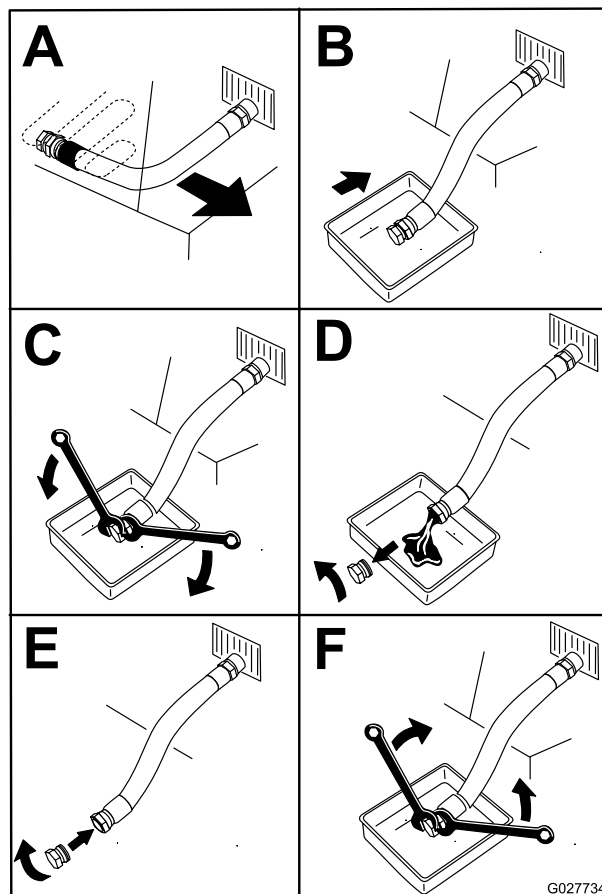

Figure 49
5. Drain the oil from the engine (Figure 49).